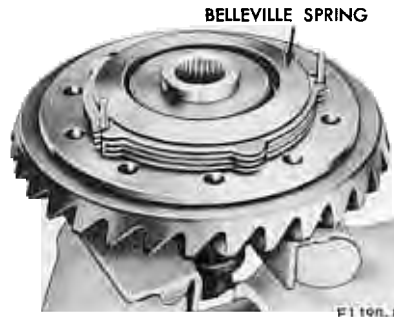

FIG. 26—Belleville Spring Installation
9. Place the Belleville spring on the top steel plate. The Belleville spring is assembled with the concave side down (Fig. 26). Carefully center the Belleville spring so that it will fit into the cover.